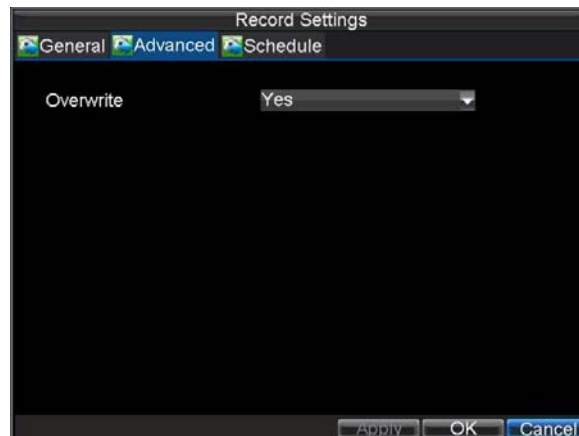

Figure 3. Advanced Record Settings
5. Press the *3DEF/F2* button on DVR front panel to select the *Advanced* tab to access the Advanced Settings submenu, shown in Figure 3.